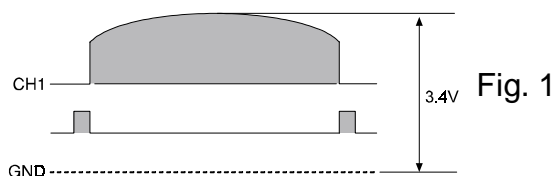

Fig. 1
3. Adjust VR601 on the A/D conversion board so that the maximum level is 3.4 ± 0.1 V (see Fig. 1).